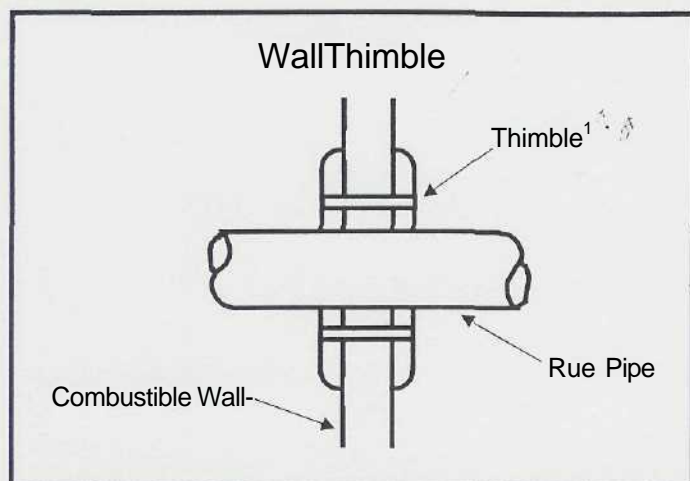

Figure 5
7. The flue pipe may pass through a wall where provisions have been made for a thimble as specified in the Standards of the National Board of Fire Underwriters (see Figure 5).